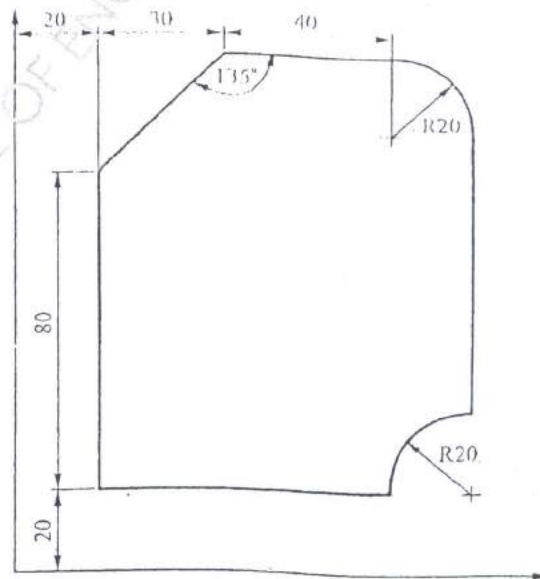

Figure 2
Q.4 (A) Write short note on (i) Essentials of Computer Aided Design workstations and its functions (ii) Visual realism
(B) Write a complete APT program (geometric and motion commands) to machine the outline of the geometry as shown in Figure 2. The component is 5 mm thick. The milling tool used is 5 mm in diameter. Consider spindle speed as 1000 rpm and feed as 0.3 mm/rev. Assume suitable data if necessary.